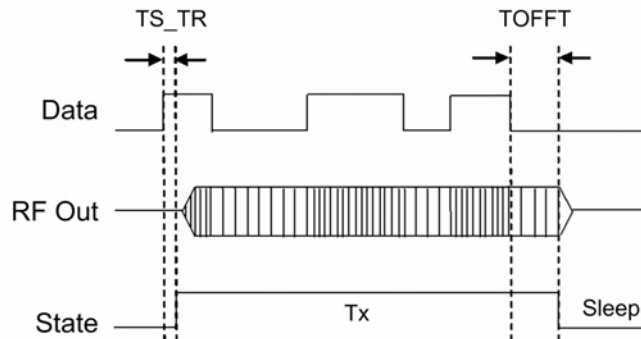

Figure 2. ‘Power & Go’ Mode: Transmitter Timing Operation
**Automatic Mode** operation is described in Figure 2. Here we see that a rising edge on the DATA pin activates the transmitter start-up process. DATA must be held high for the start-up time (TS\_TR) of the RFM68W. During this time the RFM68W undergoes an optimized, self-calibrating trajectory from Sleep mode to Transmit mode. Once this time has elapsed, the RFM68W is ready to transmit. Any logical signal subsequently applied to the DATA pin is then transmitted.